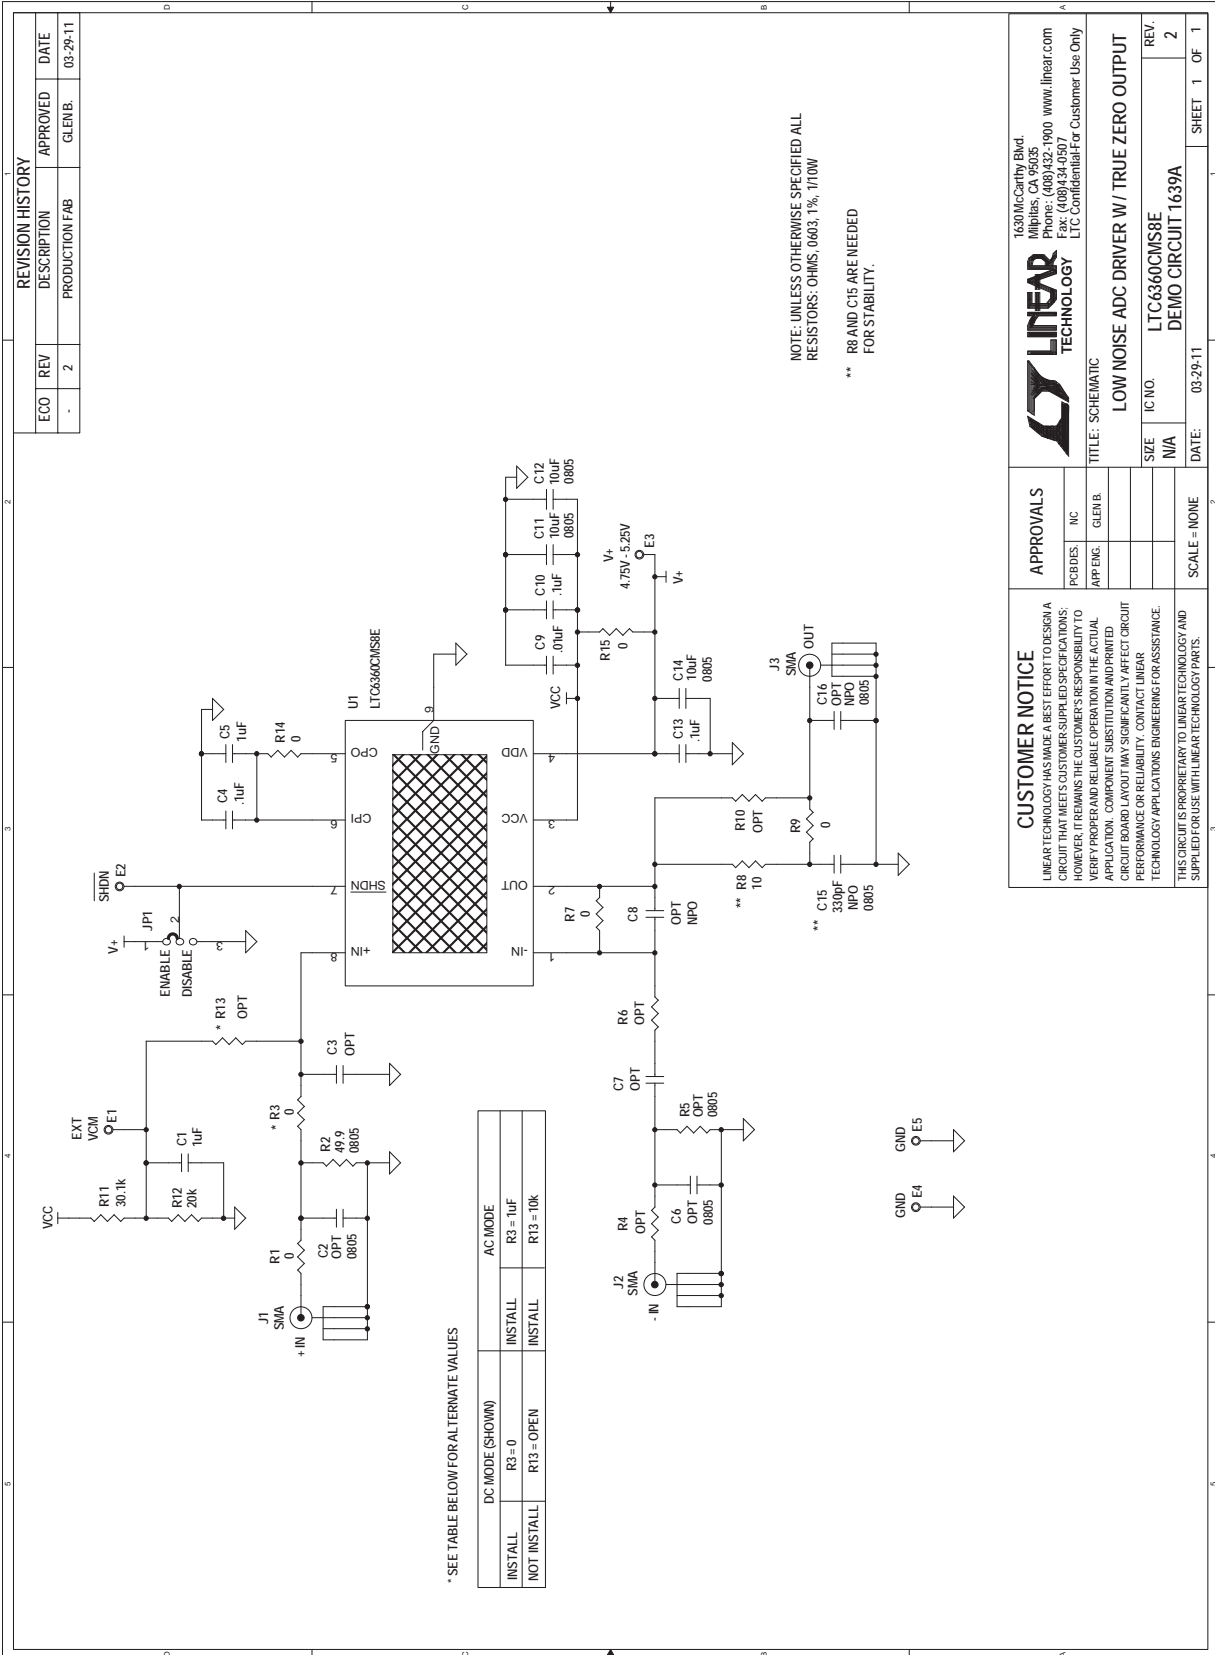

Figure 2
4. If you want to set the LTC6360 for some other positive gain, turn off the supply and disconnect the board. Refer to the schematic in Figure 2. Install appropriate resistors at R7 and R6, and install appropriate impedances at C7 and R5 (shorts and/or blocking capacitance). The time domain and frequency responses can be adjusted using a small capacitance at C8.